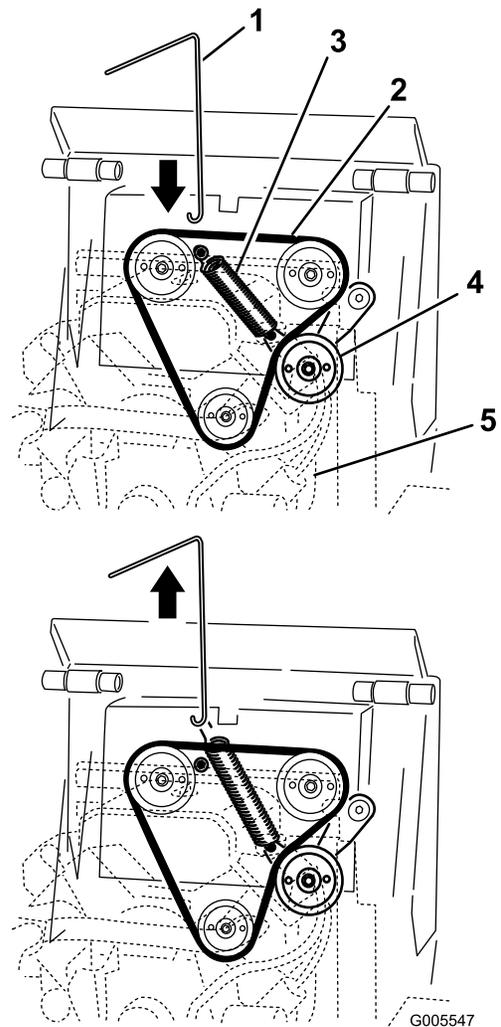

Figure 44
3. Connect the hook on the spring removal tool to the hook on the idler pulley spring, and disconnect the spring from the stud as illustrated in Figure 44.